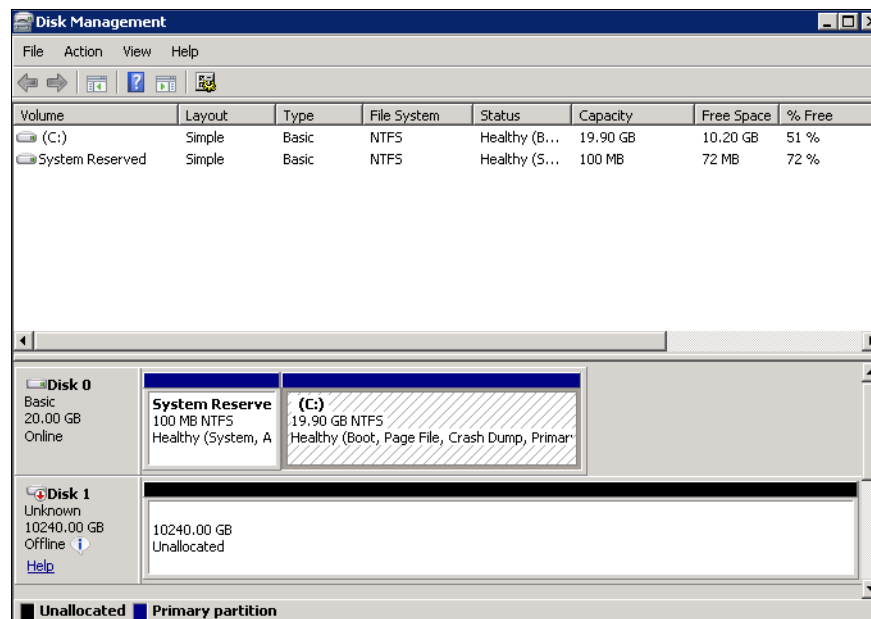

Figure 5-43 Windows Disk Management
- Open the Windows Disk Management window (Figure 5-43) by clicking **Start** → **Run**, and then type `diskmgmt.msc` and click **OK**.